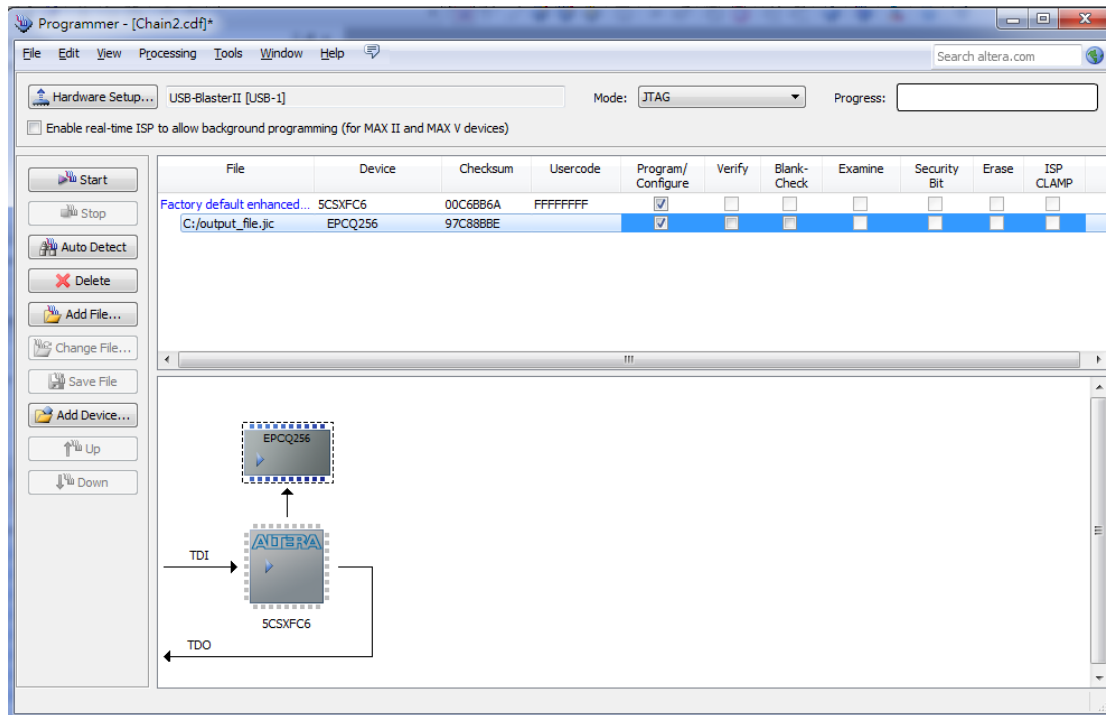

Figure 7-6. Quartus II programmer window with one JIC file
4. Erase the serial configuration device by checking the corresponding **Erase** box, a Factory default SFL image will be load (See **Figure 7-6**).